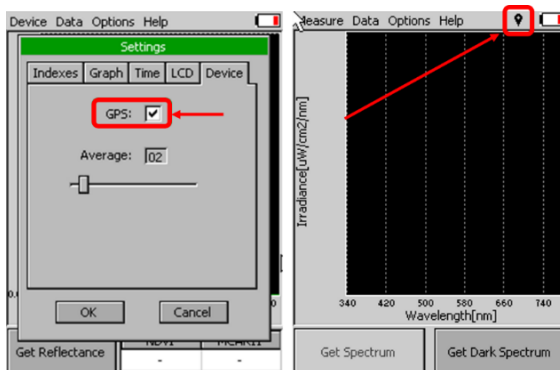

Fig. 26 Activation of GPS
- Click on the check box for GPS (Fig. 26)
- Wait until the position flag icon in the upper menu stops flashing (Fig. 26). You may need to move to open space area to acquire satellite signal